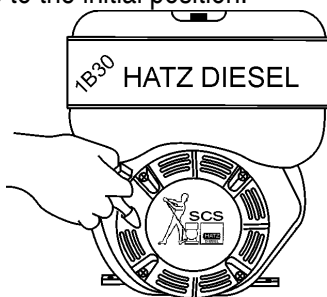

Figure 8. Starter Grip
2. Grasp the starter grip (Figure 8) and slowly pull it out until you feel the strongest resistance then return the starter grip to the initial position.
3. Slowly pull the starter grip (Figure 8) until strong resistance is felt and leave it in this position. This prevents rust from forming while the engine is not in use.